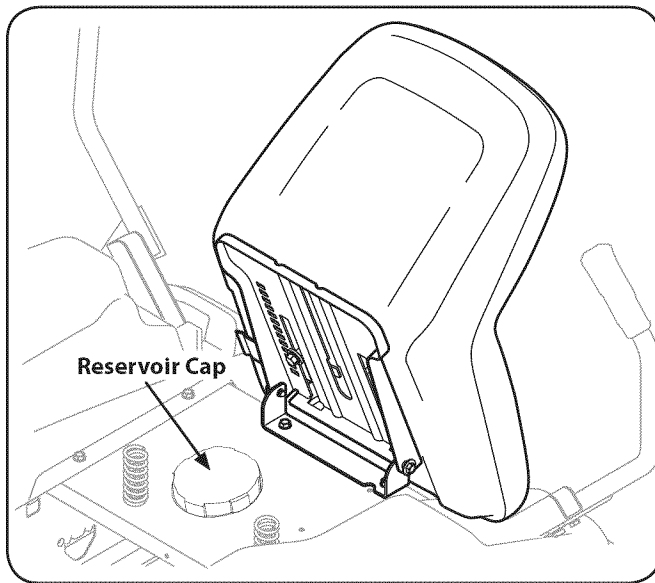

Figure 6-3
1. Pivot the operator's seat forward and clean the reservoir cap and the area around the cap to prevent debris from contaminating the transmission oil. See Fig. 6-3.